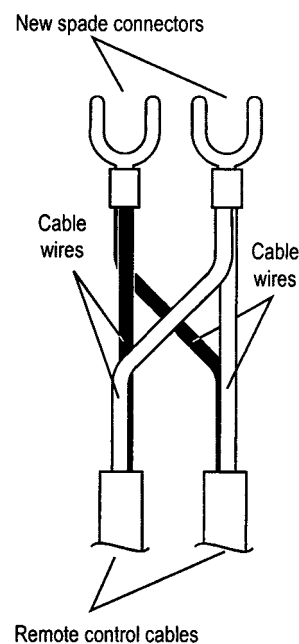

fig. 3
4. Remove the face plate from the controller using a flat screwdriver. Take care not to damage the cover (fig. 3.)
4. Cut the spade connectors from two controller cables (4 connectors should be cut off) and discard. Connect the wires and terminate into two new spade connectors as shown in fig. 3.
3. Cut the spade connectors from all four controller cables to be connected to the appliance (8 connectors should be cut off) and discard. Connect the wires from two remotes and terminate into two new spade connectors as shown in fig. 3.